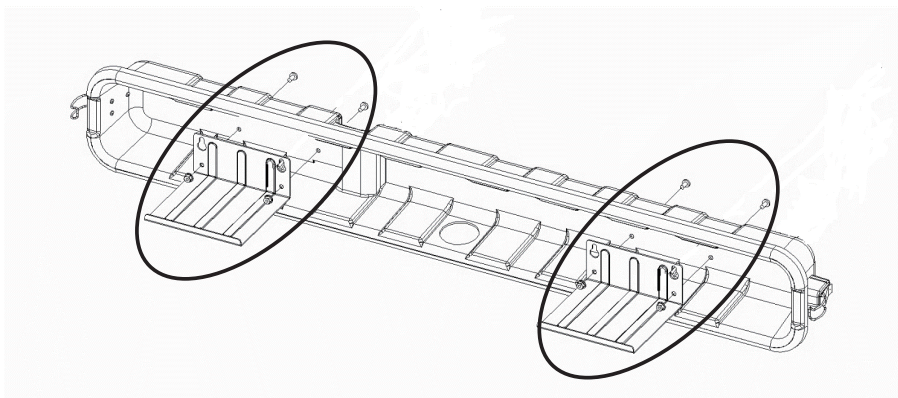

Figure 5
4. Remove the Storm Shell Back from the wall. Attach the Soundbar Mounting Bracket to the Storm Shell Back by aligning the four holes in the Soundbar Mounting Bracket and the four holes in the Storm Shell Back. Place two (2) S3 screws from the backside of the Storm Shell Back through the lower left and lower right holes. Fasten each screw with a N2 nut. Repeat for 2nd bracket. See Figure 5.